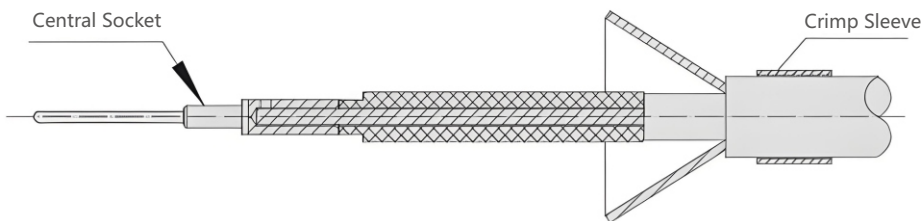

Figure 1.11
- ④As shown in Figure 1.11, assemble the central pin onto the central conductor of the cable. The central conductor of the cable should be visible through the observation hole at the tail of the central pin. Use crimping tool M22520/2-01 (set to position 5) and locator M22520/2-35 for crimping.